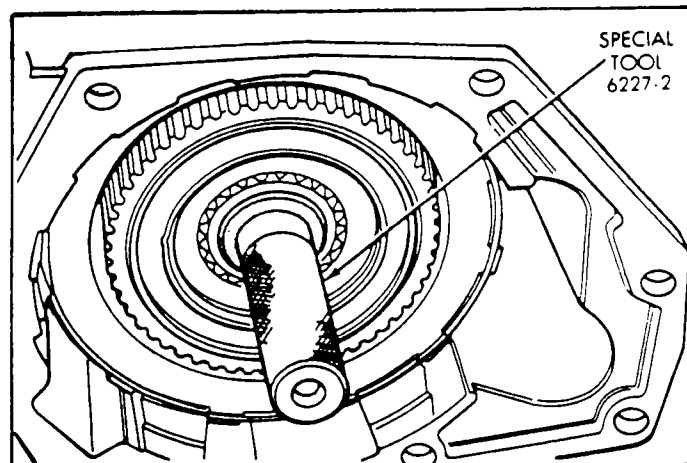

Figure 35
50. Remove the spline alignment tool from the overdrive section (See Figure 35).